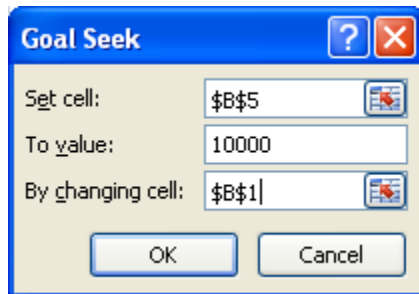

Figure 32 - Goal Seek dialog box
- Examine Figure 32 below, there are 3 arguments: